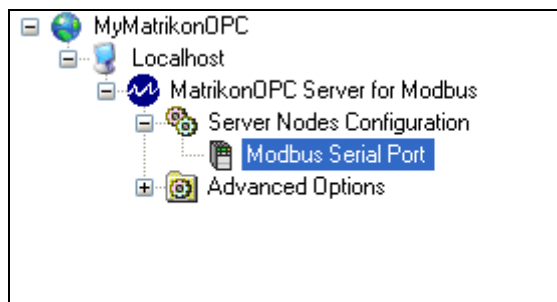

Figure 5 - New Modbus Serial Port Node
- Click on the **Create** button. The new item is created and appears as a child of the **Server Nodes Configuration** node in the navigation pane as shown in Figure 5.